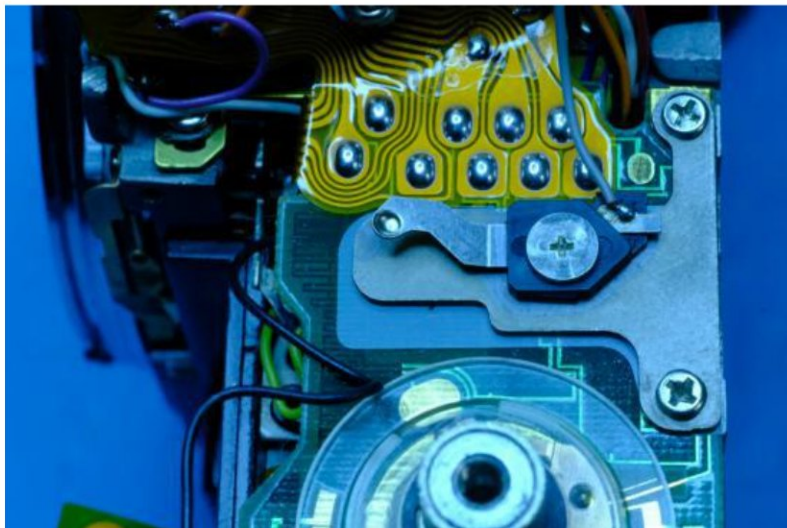

Fig.5
- 7 - Remove battery test ground plate w/switch (2 screws fig.5)